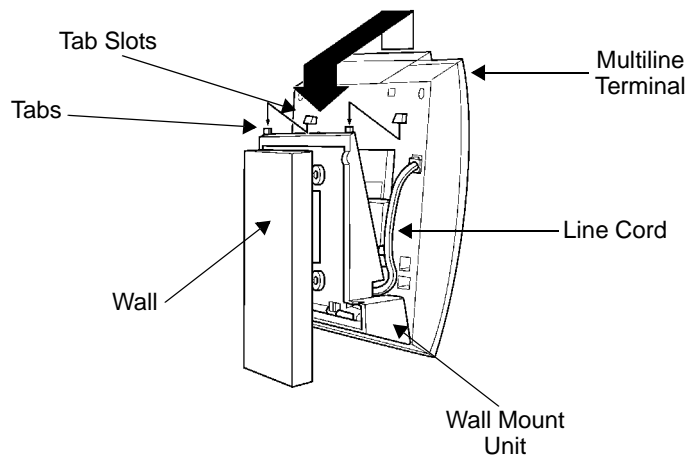

Figure 6-23: Attaching the Top Tabs of the Multiline Terminal to the Base Plate
9. Push up on the Multiline Terminal and lock the top tabs on the base cover into the tab slots on the base of the Multiline Terminal. Turn terminal slightly clockwise to interface with base cover. *Figure 6-23: Attaching the Top Tabs of the Multiline Terminal to the Base Plate* shows how the Multiline Terminal is attached.